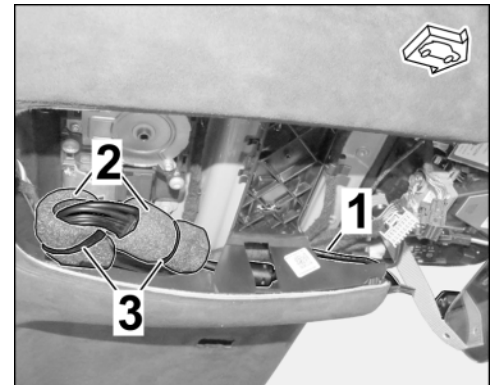

Figure 13
- 3.1.5 Branch for 2nd camera and secure it to existing components/lines in the roof console area using another protective foam roll (⇒ *Figure 13*).